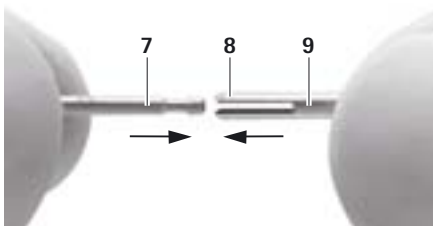

Fig. 5
- To assemble shaft 5, see Fig. 5: